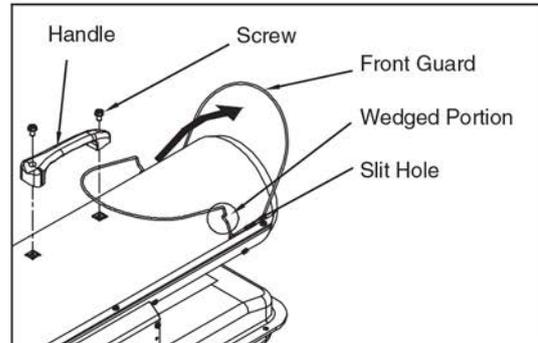

Figure 6. Assembling Handle
A. For JEFHTSPC 60 Model only (Figure 6)
2. Align the holes in the upper shell with the 2 mounting holes on the handle as shown in Figure 6.